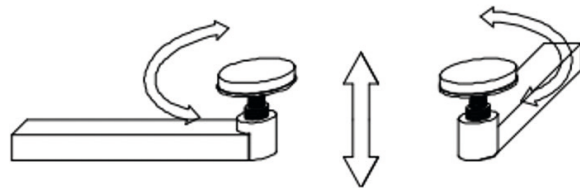

Figure 15
8. Check that the main lifting platform does not touch the chassis of the vehicle being lifted; if necessary, adjust the pads. Adjust the height of the pads by rotating clockwise and anticlockwise (Figure 15)
c). Adjust the height of the pads by rotating clockwise and anticlockwise (Figure 15)